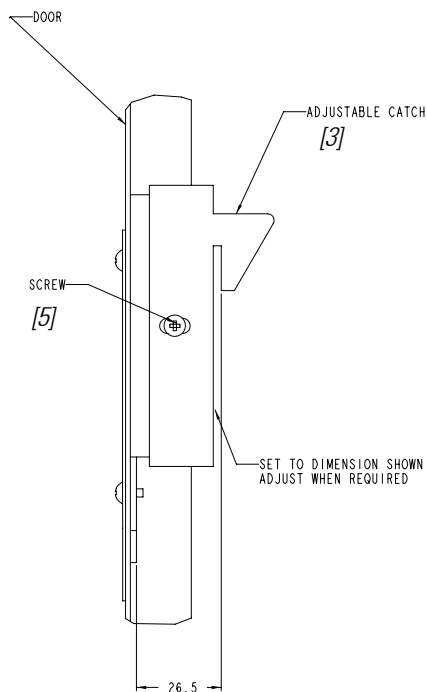

Figure 5. TDR integral handle operator catch kit.
- 1) Adjust catch height per Figure 5.
B. Adjust sliding interlock catch for circuit breaker per Figure 5 and tighten with furnished screw.